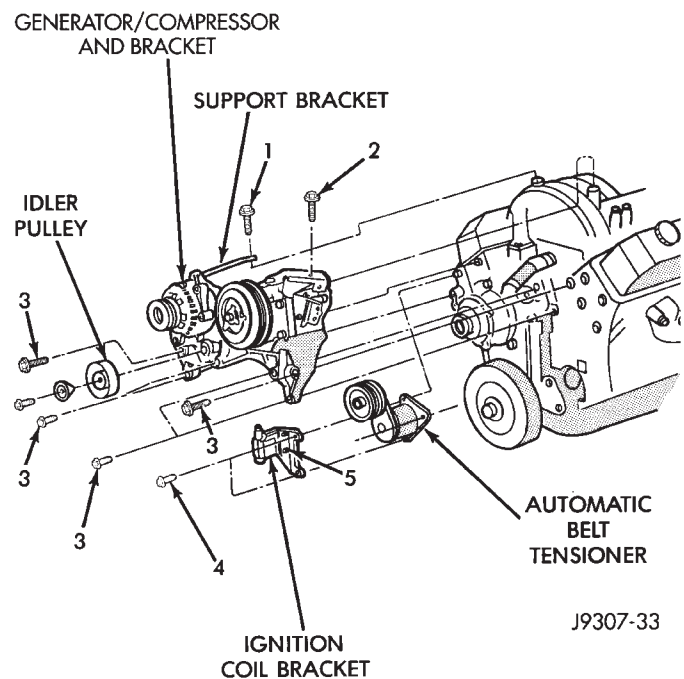

Fig. 20 Generator—A/C Compressor Mounting Bracket—5.2L Engine
If equipped with A/C, the generator and A/C compressor along with their common mounting bracket (Fig. 20) must be partially removed. Removing generator or A/C compressor from their mounting bracket is not necessary. Also, discharging A/C system is not necessary. **Do not** remove any refrigerant lines from A/C compressor.
(9) The drive belt idler pulley must be removed to gain access to one of A/C compressor/generator bracket mounting bolts. Remove idler pulley bolt and remove idler pulley (Fig. 20).
(10) Remove oil dipstick tube mounting bolt at side of A/C-generator mounting bracket.
(11) Disconnect speed control cable and throttle cable at throttle body. Refer to Accelerator Pedal and Throttle Cable in Group 14, Fuel System for throttle cable removal and installation. Refer to Group 8H for removal and installation of speed control cable.
(12) Remove bracket-to-intake manifold bolts (number 1 and 2—Fig. 20).
(13) Remove six bracket bolts (number 3—Fig. 20).
(14) Lift and position generator and A/C compressor (along with their common mounting bracket) to gain access to bypass hose. A block of wood may be used to hold assembly in position.
(15) Loosen and position both hose clamps to center of bypass hose. Remove hose from vehicle.
- (4) Install generator-A/C mounting bracket assembly to engine. Tighten bolts (number 1 and 2—Fig. 20) to 54 N•m (40 ft. lbs.) torque. Tighten bolts (number 3—Fig. 20) to 40 N•m (30 ft. lbs.) torque.